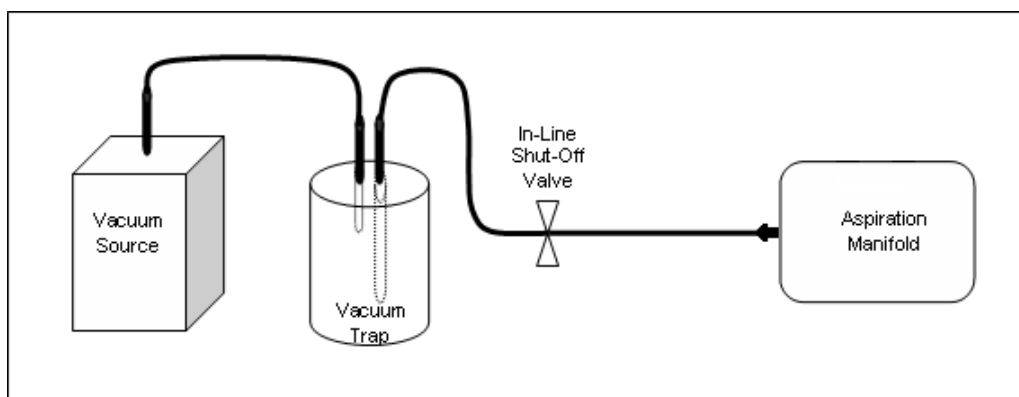

Figure 8: Vacuum System Connection
- a. Syringe method: Attach the Two-Way Check Valve (3) to the Luer Lock Fitting (4) on the top of the unit using the female adapter. Then attach a Luer Lock syringe and the Manifold Feed Tube (2) to the Two-Way Valve. If unable to read the volume markings on the syringe unscrew the syringe, rotate, and screw the syringe back into the Two-Way Valve. Insert the other end of the Manifold Feed Tube (2) into the hole in the cap of the Source Bottle (1). If the Feed Tube does not fit loosely in the hole in the cap, then it will need to be unscrewed slightly so a vacuum does not form in the Source Bottle.
- c. Bottle Top Dispenser (15): Assemble Dispenser according to manufacturer's instructions. The supplied Luer Nut Tube Fitting (16) is used to connect the Bottle Top Dispenser's dispensing tubing to the Manifold.
2. Place the Collection Bottle (7) beside the Manifold. Place the Bleed Tube (6) in the hole of the Collection Bottle's cap.
3. Attach one end of Vacuum Tubing (12) to the Quick Connect Fitting (10) on the back of the Manifold and other end to a shut-off valve connected to a vacuum source (see Figure 8 below). Make sure Quick Connect Fitting is disconnected before bleeding air from the system, once disconnected the fitting is closed.